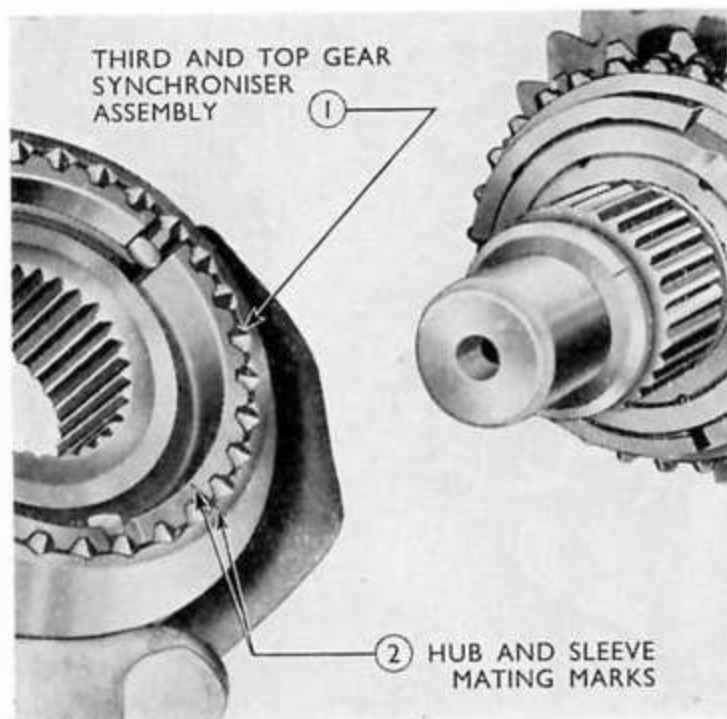

Fig. 12
(b) Fit the synchroniser sleeve over the hub with the mating marks aligned (see Fig. 12 for similar mating marks on the third and top gear synchroniser unit). Locate a blocker bar in each of the three slots cut in the hub.
11. Locate the third and top gear synchroniser hub on the mainshaft with its long boss towards the front of the shaft. Ensure that the mating marks on the hub and shaft correspond (see Fig. 12).
13. Fit the synchroniser sleeve on its hub with the mating marks in line (see Fig. 12). Locate a blocker bar in each of the three slots cut in the hub. Install a blocker bar spring (at the rear of the hub) so that the tag end locates in a blocker bar the other end being left free. Note the direction of rotation of this spring. Fit the other spring at the front face of the synchroniser ensuring that the tag on this spring locates in the same blocker bar as the spring previously fitted but with this spring running in the opposite direction. Leave the other end of this spring free.